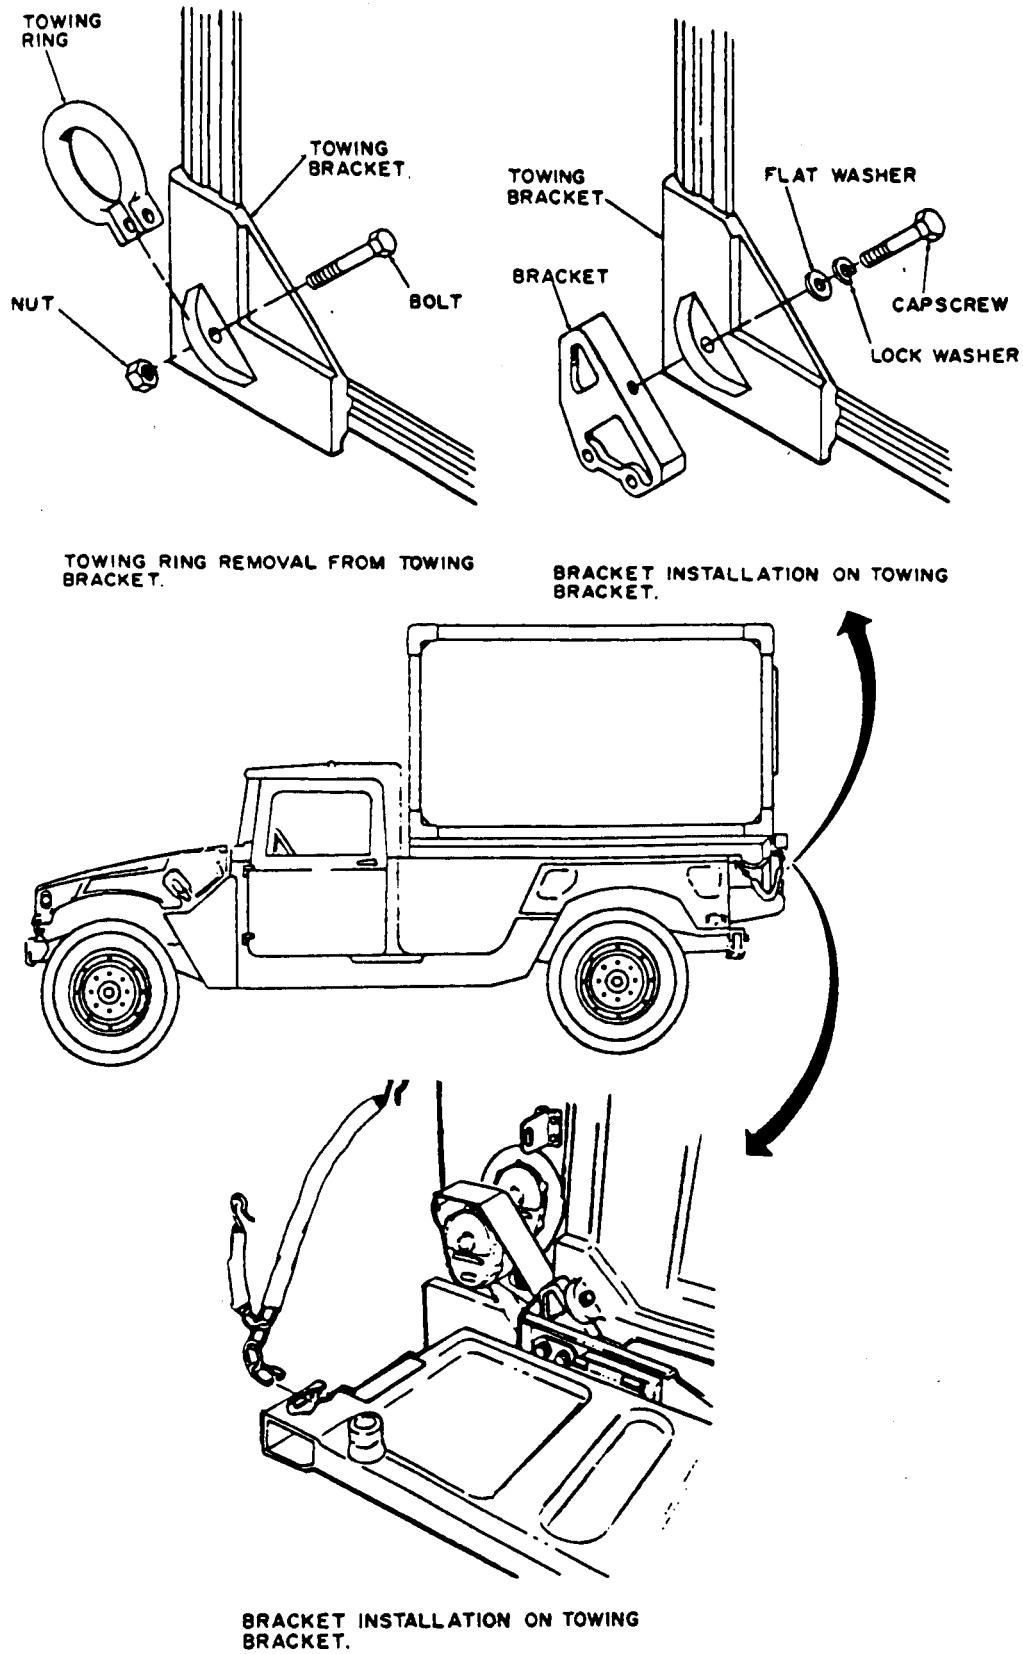

Figure 3-4. Securing Shelter on M1037 Shelter Carrier.
- (1) To install shelter support provisions on truck bed refer to TM 9-2320-280.
- (2) Lower truck tailgate and place in loading position.
- (3) Connect sling assembly to shelter lifting brackets on the top four corners of shelter and lifting device.
- (4) Remove and retain a bolt and nut attaching each towing eye to towing bracket and remove towing eye.
- (5) Position each mounting bracket in place on towing bracket and secure with capscrew, lock washer, and flat washer, as shown in Figure 3-4. Do not tighten capscrew until shelter is installed.
- (6) Position shelter over support and gradually lower shelter onto support in truck.
- (7) Position shelter to support front mounting points. Secure shelter to front of support with four bolts, lock washers, washers, and two reinforcements. Tighten capscrews to 60 ft-lb (81 n-m). Tighten bolts to 90 ft-lb (122 n-m).
- (8) Secure rear of shelter (Figure 3-4) to support with four bolts, lock washers, washers, and two reinforcements. Do not tighten capscrews.
- (9) Add shims as necessary to rear shelter mounts to ensure snug fit between mounting brackets and support. Tighten capscrews to 60 R-lb (81 n-m). Tighten bolts to 90 ft-lb (122 n-m).
- (10) Disconnect sling from shelter.
- (11) Raise and secure tailgate.